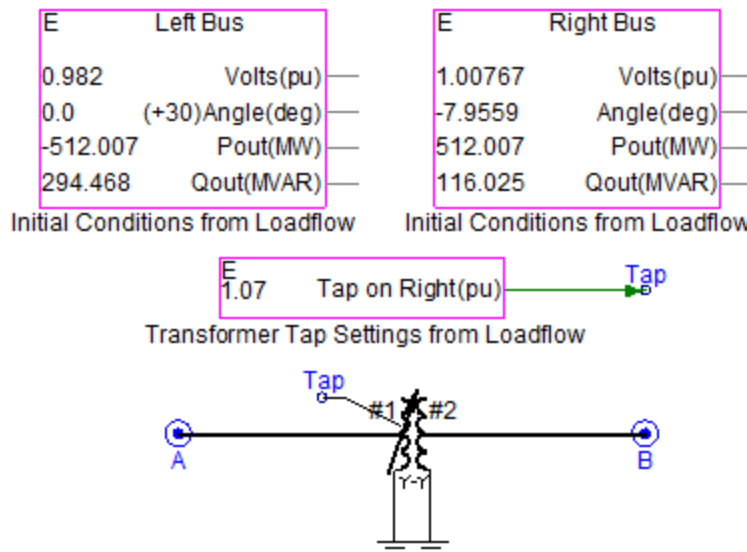

Figure 5.4 The appearance of the sub-page for the substitution transformer created in this example.
- Once you are finished with the sub-page it should appear similar to the one shown in Figure 5.4.
- If your transformer is oriented similar to the one shown in Figure 5.4, for voltages you would enter “22” for winding #2 and “345” for winding #1.